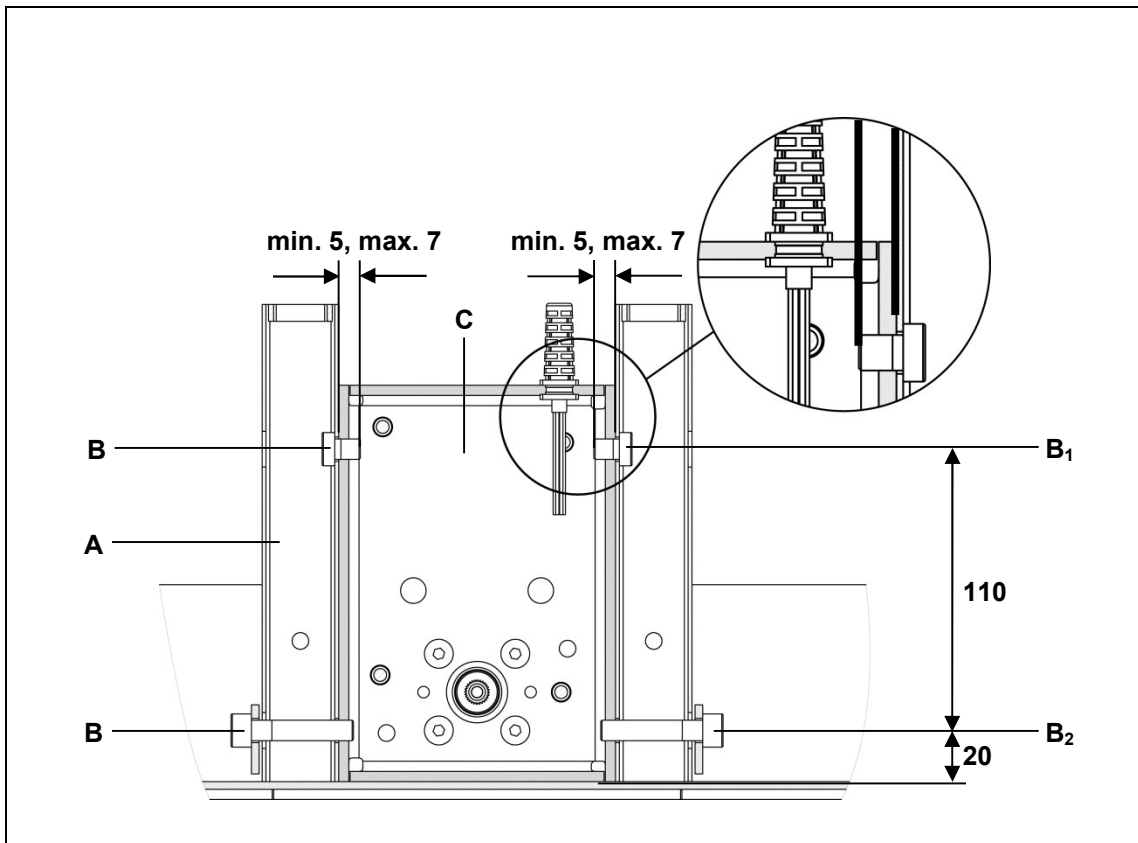
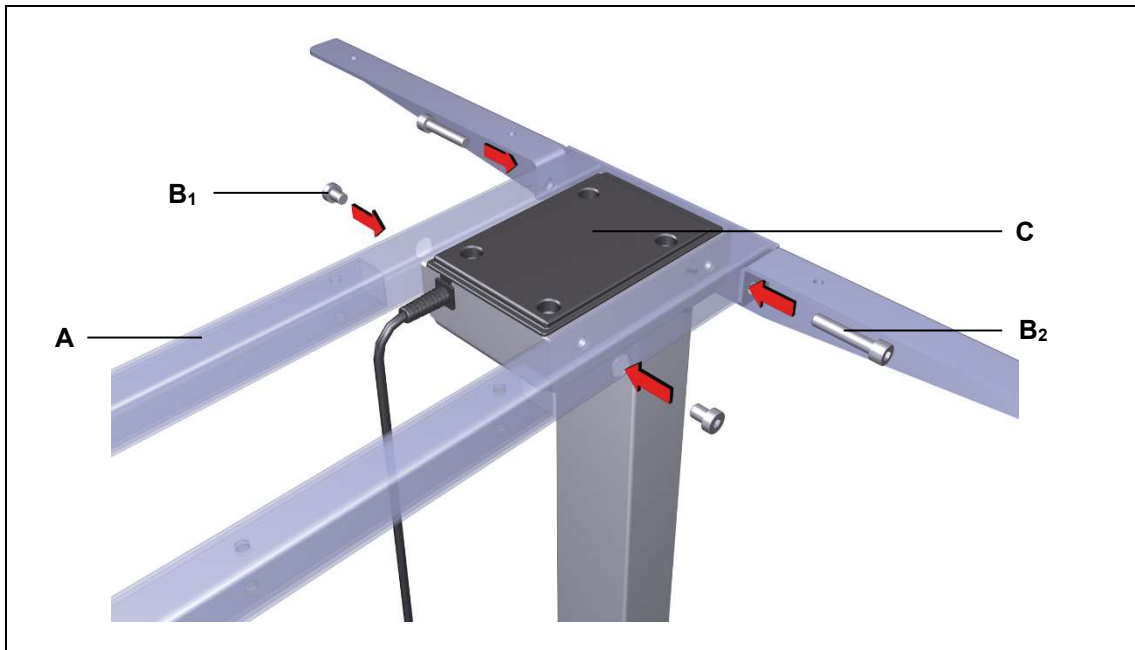

Figure 14 Example: Mounting the table frame (dimensions in mm)
Figure 15 Example: Mounting the table frame
- ▶ Use M8 bolts (with strength grade 8.8), as shown in Figure 14. The tightening torque must not exceed 20 Nm.
- 1 Set the table frame so that the holes are over the lifting column. Use four screws to attach the table frame to the motor housing of the lifting column, as shown in Figure 15 (maximum tightening torque is 20 Nm). The mounting dimensions are shown in Figure 14.